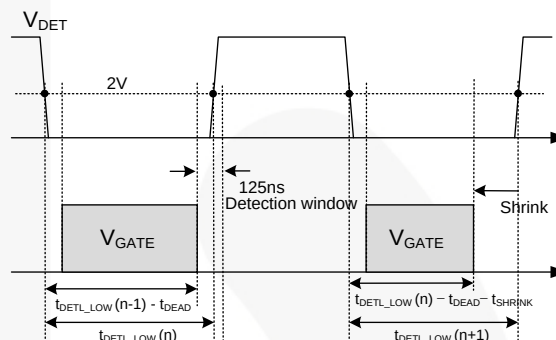

Figure 12. Gate Shrink by Minimum Dead Time Detection Window
- (a) When insufficient dead time is detected in the previous switching cycle. When the DETL goes HIGH within 125 ns of detection window after SR gate is turned off, the SR gate drive signal in the next switching cycle is reduced by $t_{SHRINK-DT}$ (about 1.25 μ s) to increase the dead time, as shown in Figure 12.